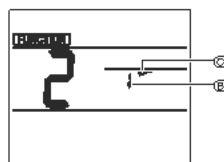

Fig. 5-1
1. In the Function setting screen, press the **VANE** button ③ and select function No. "2".
2. Press the **VANE** button ③.
- The vane number ② blinks. (Fig. 5-1)
3. Press the **VANE** button ③ to select the vane number.
4. Press the **VANE** button ③.
- The airflow direction setting ① blinks. (Fig. 5-1)
5. Press the **VANE** button ③ to select the airflow direction at which you want to fix the vane.